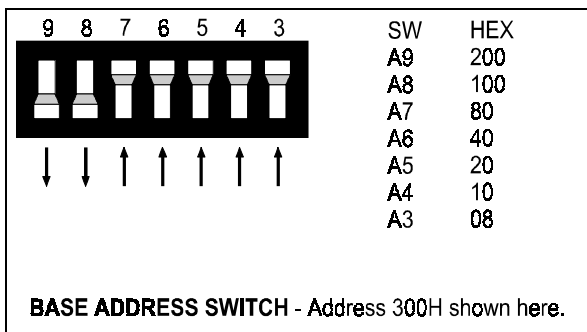

Figure 2-1. Base Address Switches
The base address switch on the CIO-DIO48 and CIO-DIO48H are identical to that shown in figure 2-1. The CIO-DIO96 has one less switch in the base address switch bank and the CIO-DIO192 has two less. This means that the CIO-DIO48(H) may be set at addresses that are a multiple of 8 (300h, 308h, 310h, etc..). The CIO-DIO96 may be set at addresses that are a multiple of 16 and the CIO-DIO192 at multiples of 32.
A complete address is constructed by calculating the HEX or decimal number which corresponds to all the address bits the CIO-DIO has been instructed to respond to. For example, shown in figure 2-1 are address 9 and 8 DOWN, all others UP. Switch A9 = 200h (512 decimal) and switch A8 = 100h (256 decimal). Added together they equal 300h (768 decimal).